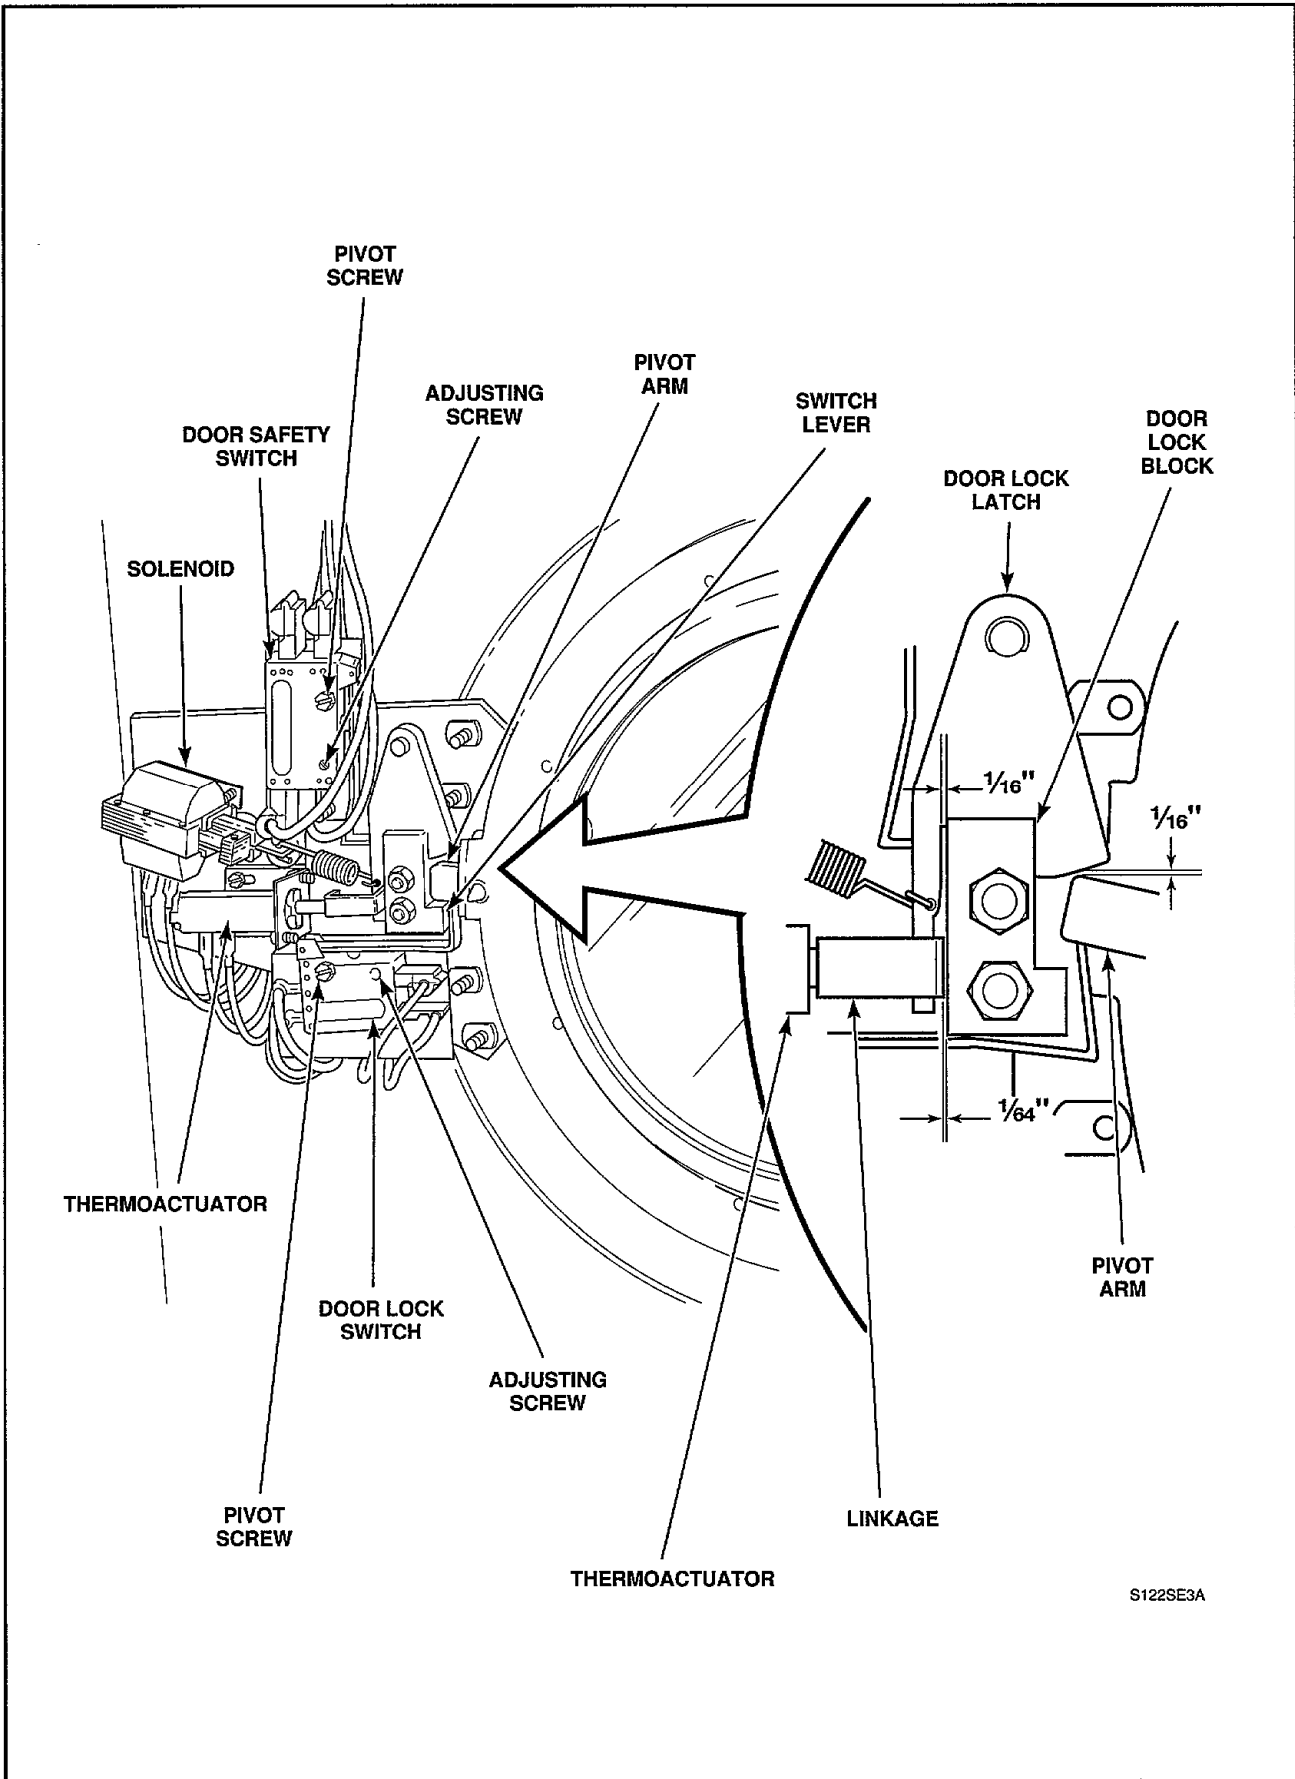

Figure 51
- a. Loosen door safety switch attaching screws, *Figure 51*.
- c. Disconnect electrical power to thermoactuator, plunger will retract in approximately 1 to 3 minutes. During this time, pivot the door safety switch so the switch contacts reset (click) with a 1/16 inch clearance between the door lock latch and door lock block, *Figure 51*.
- d. Without moving the switch, tighten the nut on adjusting screw, then tighten pivot screw, *Figure 51*.
- a. Loosen door switch attaching screws, *Figure 51*.
- d. Disconnect electrical power to thermoactuator, plunger will retract in approximately 1 to 3 minutes. During this time, with the door closed and the handle latched, pivot the door lock switch so the switch contacts close (click) with a 1/16 inch clearance between the pivot arm and the door lock latch, *Figure 51*.
- e. Without moving the switch, tighten the nut on the adjusting screw, then tighten pivot screw, *Figure 51*.
- a. Loosen thermoactuator attaching screws, *Figure 51*.